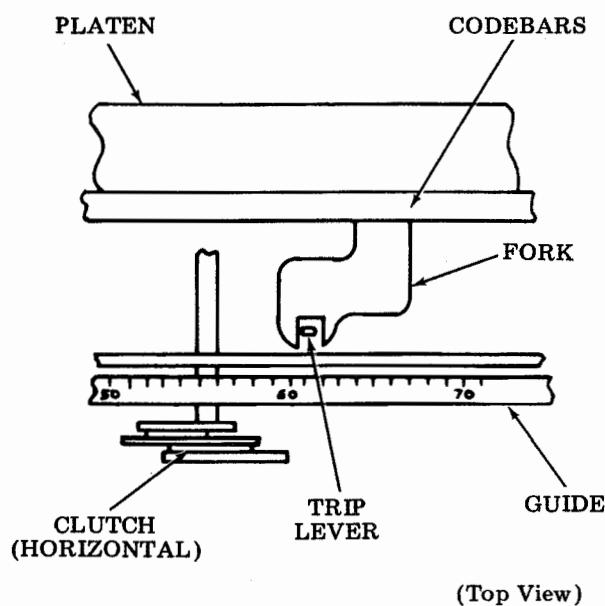

Figure 6 - Codebar Fork and Clutch Trip Lever Alignment
(2) View the typing unit from the top and check the alignment of the four horizontal positioning clutch trip levers with the codebar forks. The correct alignment is shown in Figure 6. If corrective action is required, lift up the codebar fork and position the Number 4 horizontal trip lever into the fork. Perform the same corrective action for all four forks and trip levers. It may be necessary to loosen front plate mounting screws in order to reposition trip levers. Tighten mounting screws.